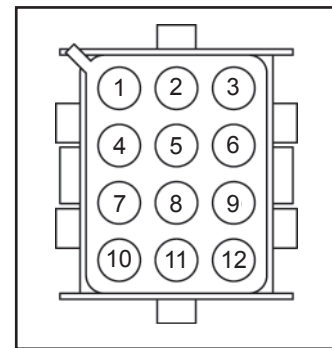

Figure 9
13. Once the correct connection has been found, locate the 16 gauge pink wire labeled 003BB (printed on the wire coating) in position 10 of the 12-pin connector. See the diagram in Figure 9.